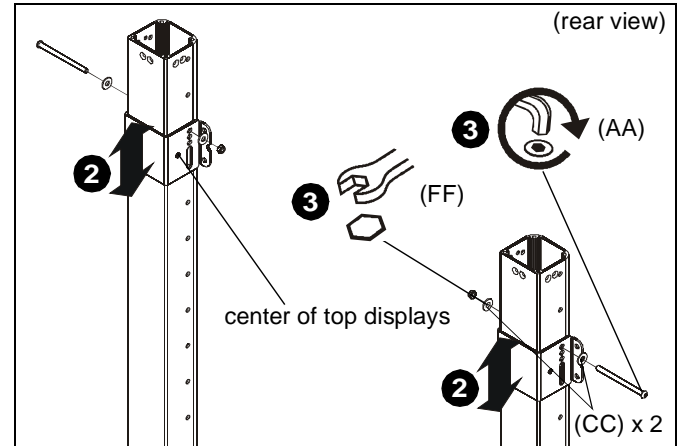

Figure 5
2. Place clamp brackets (P) on columns in the position of where the center of the top displays will be on the cart with the diamond on the brackets being placed at the exact center location. (See Figure 5)
3. Use 5/16-18 x 4 1/2" button head cap screw (AA), two 5/16" washers (CC) and 5/16-18" lock nut (FF) to secure each clamp bracket (P) to column. (See Figure 5)